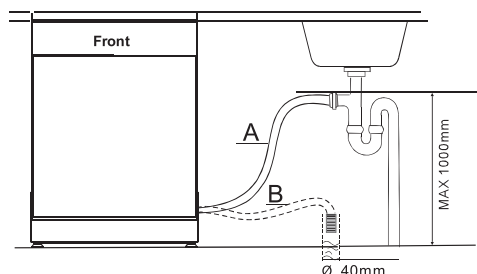

Figure 6. Drain hose connection.
Insert the drain hose into a drain opening, minimum diameter 4 cm, check, if there are any bends. As it may be required, use a special fastener, which is included (Fig. 6). The free end of the hose may be positioned at a height ranging from 40 cm to 1 m. Do not dip it into water.
4. Connect the drain hose (see Figure 6).